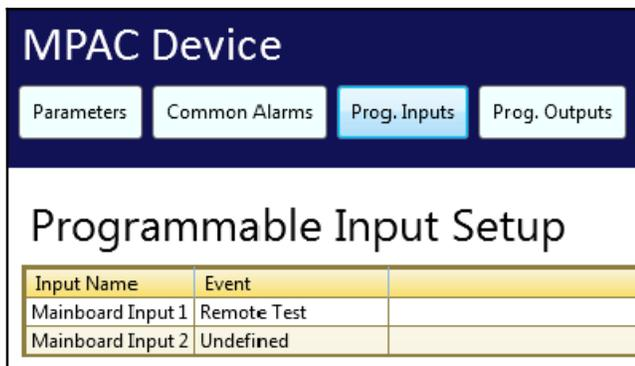

Figure 16 SiteTech Software, Programming Exercise Timer
5. For **Mainboard Input 1**, select **Remote Test** from the drop-down menu. See Figure 16.